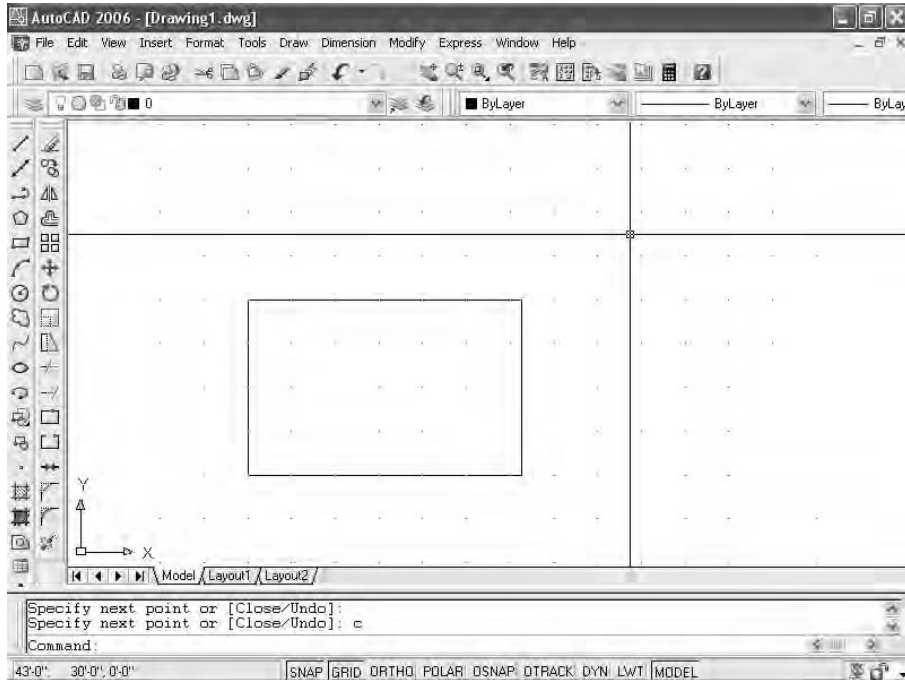

FIGURE 3.12: The completed outside wall lines
7. Finally, type **c** to close the box. This tells AutoCAD to draw a line from the last point picked to the first point picked and, in effect, closes the box. AutoCAD then automatically ends the Line command (see Figure 3.12).